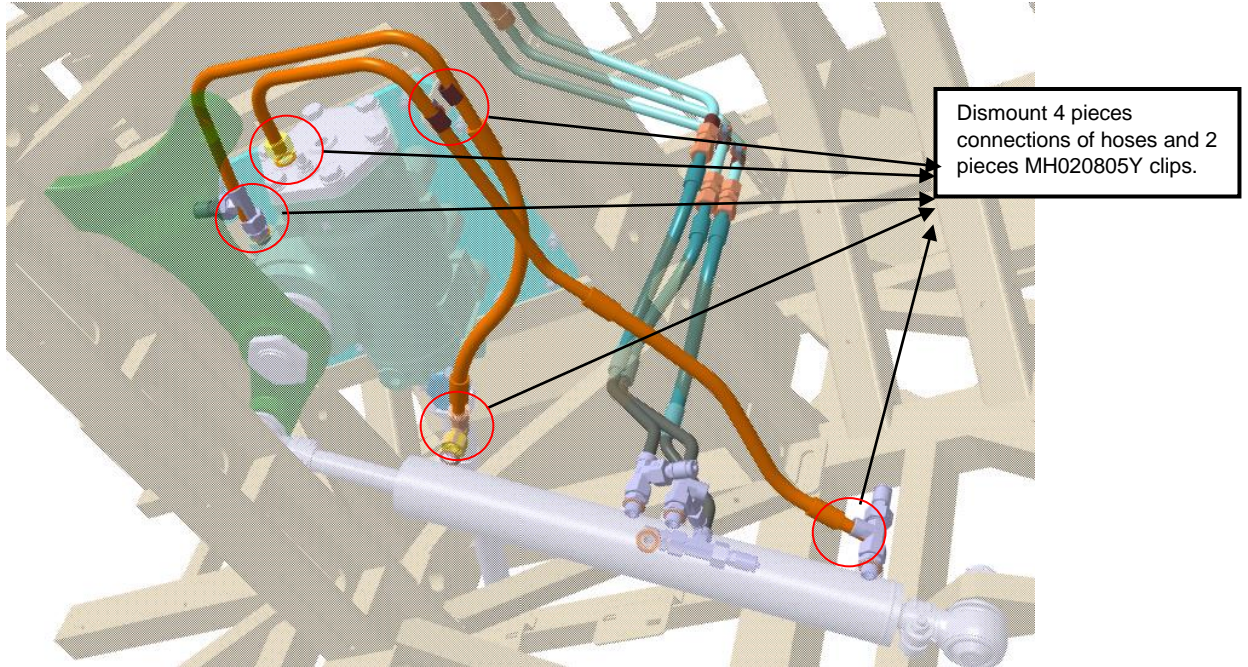

Figure-5
- To dismount the steering hoses, remove the connectors and clips which is shown in picture below (**See Figure-5**)